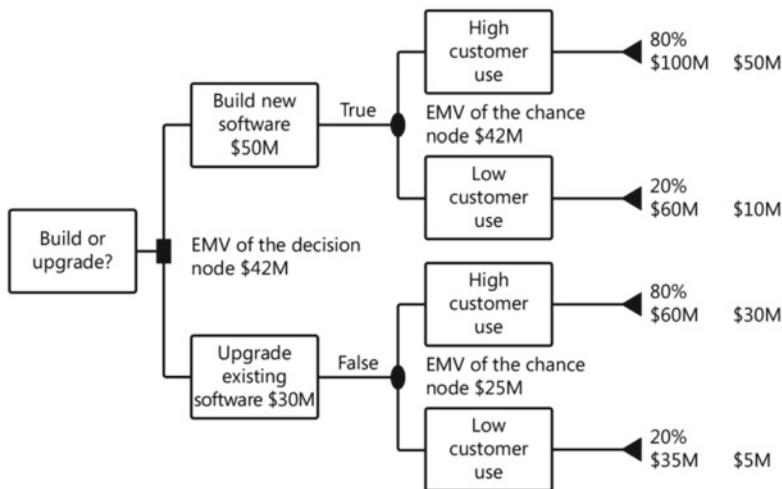

Figure 9-8. A decision tree analysis for assessing the expected monetary value of building new software or upgrading existing software
- *Expected monetary value analysis (EMV)*: A way to allocate quantitative numerical probability and impact to particular options and from this to arrive at the expected monetary value of each option. Depending on the calculated outcome, you can then quantify your decision. The usual way of graphically representing the EMV analysis is with the use of decision trees. In Figure 9-8, a decision tree shows the calculation of EMV regarding whether to upgrade existing customer ordering software or to develop a completely new piece of software.
Figure 9-8 shows that for either decision, there is an 80% chance of high customer use and a 20% chance of low customer use. If you decide to build new software, it will cost \$50 million, and if there is high customer use, you will make \$100 million, so there is an 80% chance of making a net figure of \$50 million. By the same token, if you decide to build new software at a cost of \$50 million, and there is low customer use, you will only make \$60 million, so there is a 20% chance of making a net figure of \$10 million. You then add these two calculations together